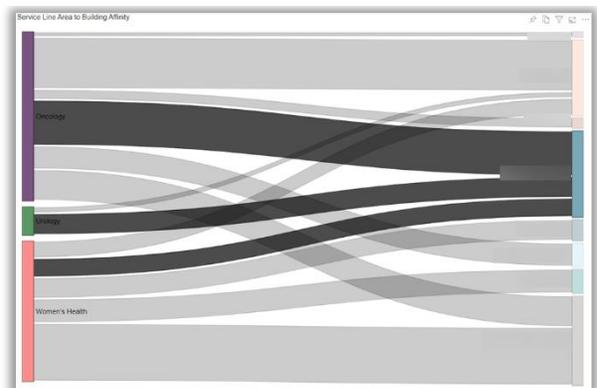

Figure 13 Sankey Diagrams can illustrate relationships. Groups on left, Buildings on right.
- Sankey diagrams (Figure 13) can also be useful visuals for illustrating how one group or category (Departments for instance) are spread between multiple physical locations, and what other groups are co-located in the same buildings.
- Mekko charts (Figure 13) are like advanced column charts, adding a third dimension in the form of the width of the column in addition to the typical X and Y axis and the break-down (stacking) of each column.